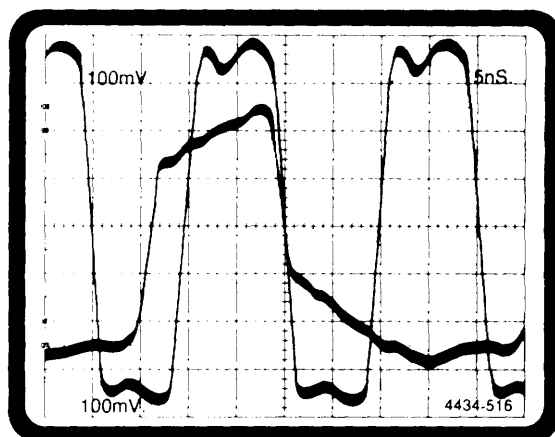

Figure 5-30. 318 Parallel data acquisition test waveform #2.
20. Adjust DD501 EVENTS LEVEL until the channel 2 waveform's falling edge crosses channel 1's falling edge at 0 V (mid-screen). See Figure 5-30 (14 ns setup, 0 ns hold).